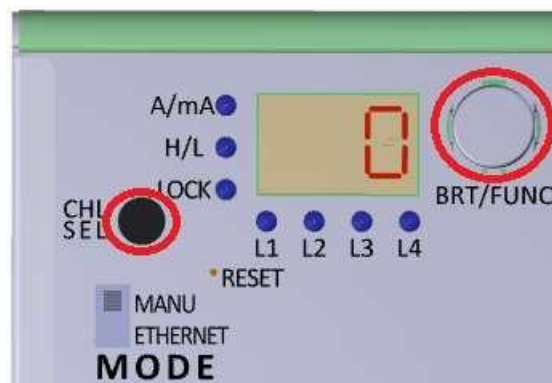

Fig 9
-Keep press **FUNC** Button & **CHLSEL** Key together over four second. (Fig 9)